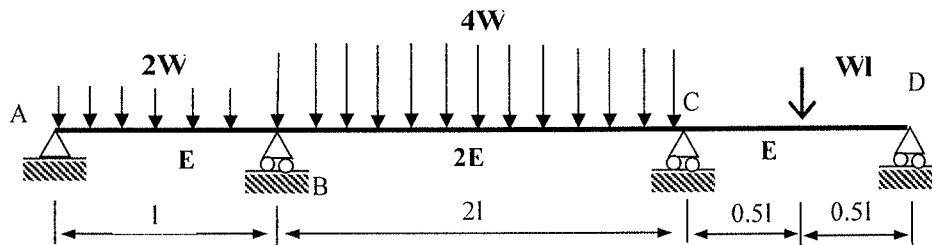

Figure Q3
- (ii) A continuous beam (ABCD) is shown in Figure Q3. Flexural rigidities of members AB and CD are equal to EI and member BC is 2EI. Uniformly distributed loads ($2W$), ($4W$) are acting on members, AB and BC, respectively. There is a concentrated load (Wl) in member CD.